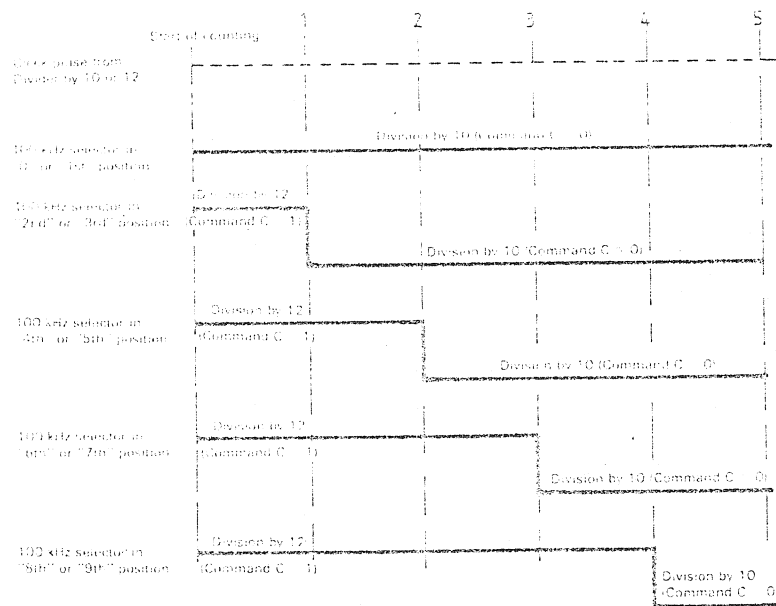

Fig. 7. Generation of Command Signal C
- 75 Generation of command signal C for different positions of the 100 kHz frequency selector switch is shown in Figure 7 below.